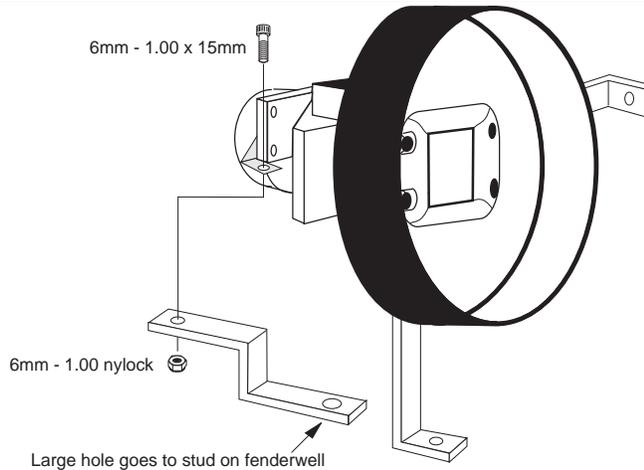

fig. 2
- 17) Install the "Z" bracket on the small angle bracket that is connected at the back of the mass-air sensor. The bracket goes to the existing stud that held the airbox in place. (see fig. 2)